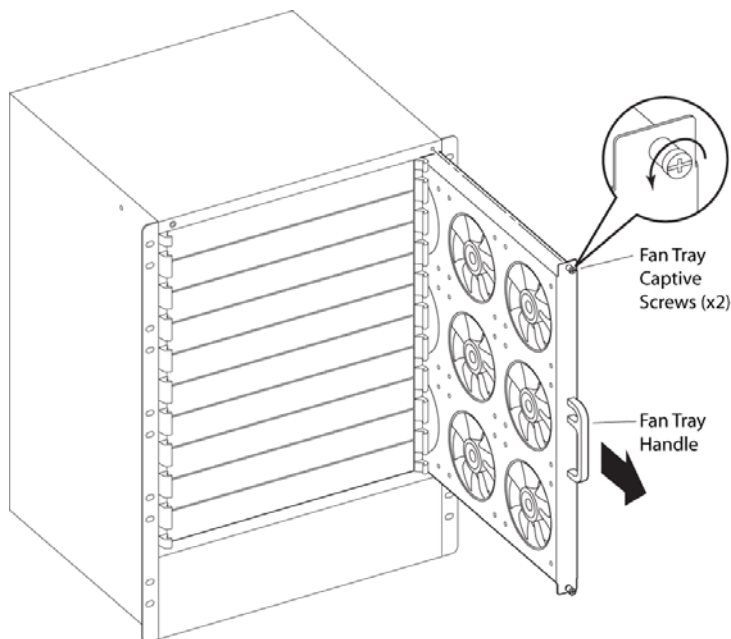
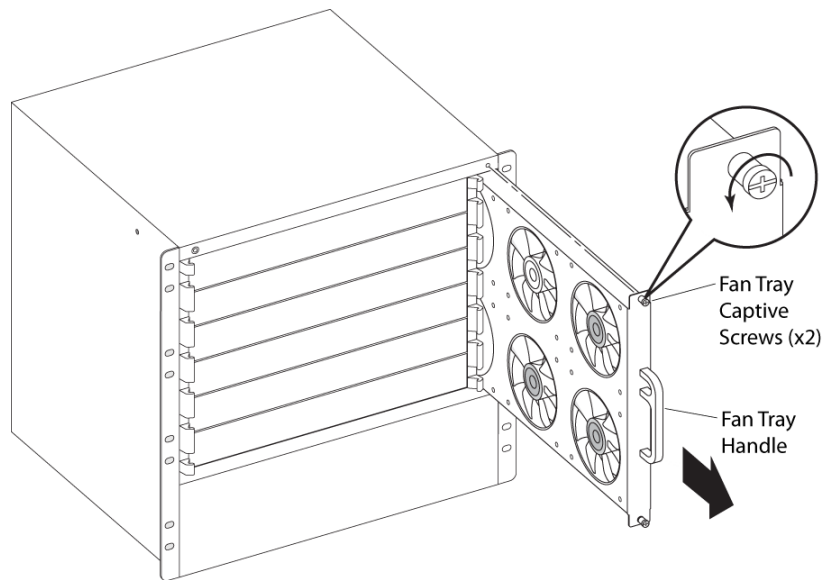

Figure 63. Removing the Fan Tray from the XCM8810 Switch
Figure 64. Removing the fan tray from the XCM8806 Switch
3. Use a #2 Phillips screwdriver to loosen each captive screw (see Figure 63 and Figure 64).